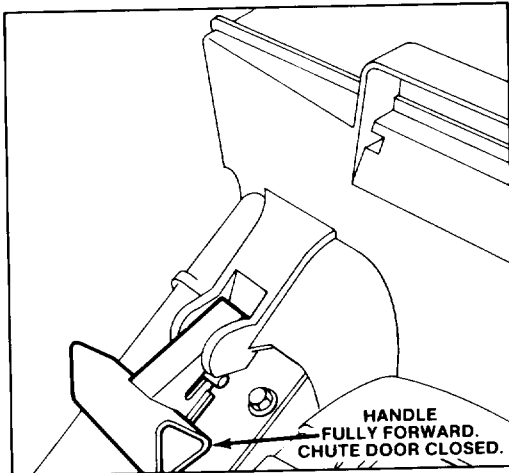

Figure 6
MULCH—In summer when grass grows slower and is drier, mulch by closing chute door (Fig. 6). For convenience and protection, keep grass bag on mower.
2. Assure chute door handle is fully forward and pin is engaged in catch (Fig. 6).
5. **EMPTYING BAG**—Stop motor and wait for all parts to stop. Move chute door handle forward to engage the locking pin with catch (Fig. 6). Grasp bag handle and rear of bag and lift bag off mower. Gradually tip bag forward to empty clippings.